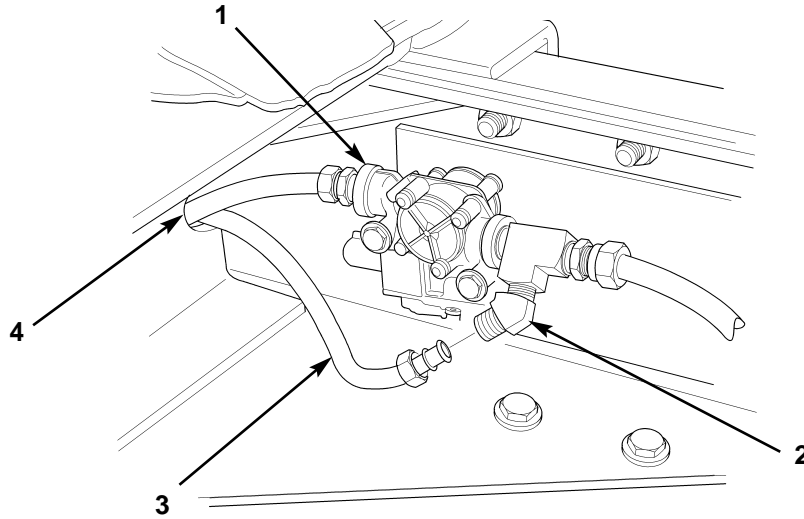

Figure 51. Connecting Tube to Right-Rear Modulator.
25. Route end of tube (figure 51, item 3) through opening in crossmember (figure 51, item 4), and connect tube (figure 51, item 3) to elbow (figure 51, item 2) on right-rear modulator (figure 51, item 1).